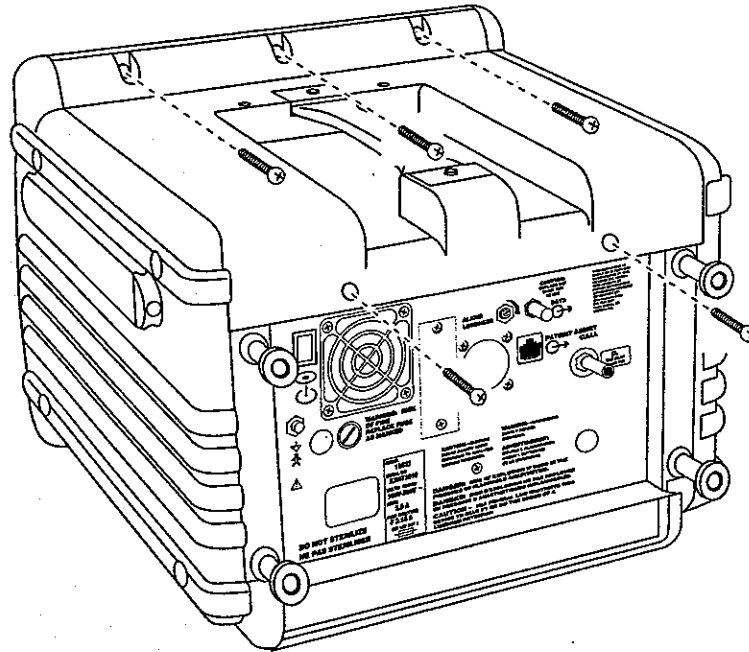

Figure 5-2. Top Cover Removal
2. Referring to Figure 5-2, remove the three (3) screws from the top front of the ventilator.
3. Holding the top cover, remove the two (2) screws from the rear of the ventilator.